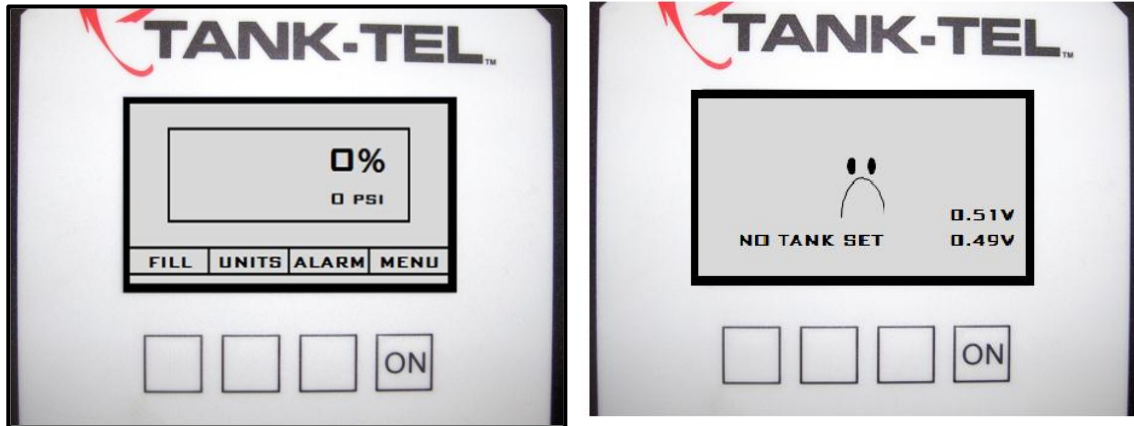

Figure 1 - Normal Start-Up - & - No Tank Set (First Time Set up)
- If you PRESS the ON key the TANK-TEL III/CYL-TEL III will run through its startup diagnostics and tests. When the test is complete the screen will have the tank's liquid and pressure level (pressure display is optional on CYL-TEL III) displayed (Main Display) or a No Tank Set Warning (see Figure 1).
2.6: Standard Tank First Time Setup (No Tank Set Display – Figure 1)